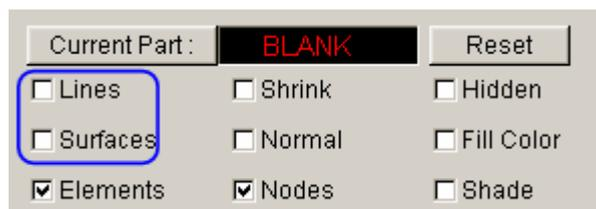

Figure 4.21 Display options
- Toggle off the checkbox of **Lines** and **Surfaces** in **Display Options** located at the lower right side of screen. See Figure 4.21.